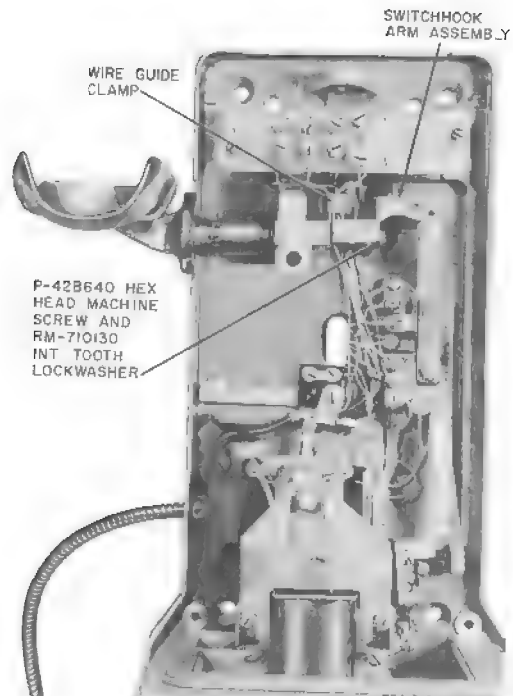

Fig. 22—Switchhook Installed
- (1) Remove and retain hex head machine screw, lockwashers, tension spring, switchhook arm assembly, and any spacing washer that may be present, from right end of shaft (Fig. 22).
- (2) Slide switchhook to the left and out of bearings.
2.35 Remove wire guide clamp (Fig. 22).